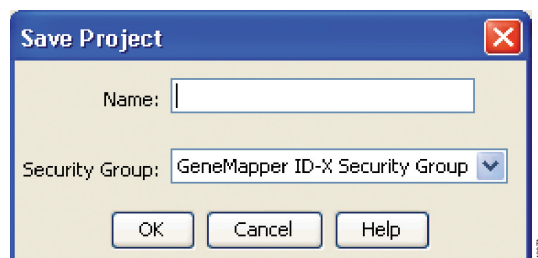

Figure 24. 'Save Project' Window.
9. If all analysis requirements are met, the 'Save Project' window will open (Figure 24).